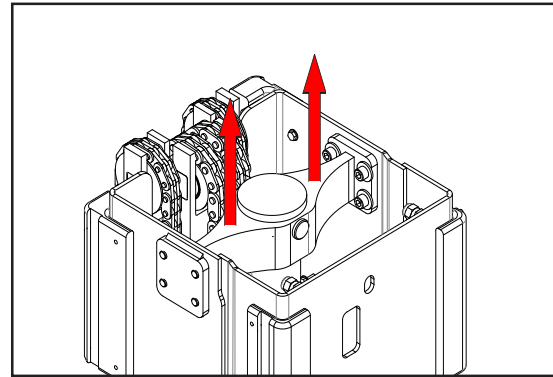

Figure 5-33. Mast 2 Securing Procedure
2. Secure mast 2 at the cylinder mount bracket, with straps, as shown in Figure 5-33.